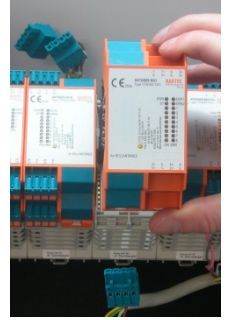

Figure 5
- Raise the electronic unit and take it out of the lower section of the enclosure (fig. 5).
The electronic unit may be touched only on the upper section of the enclosure (see fig. 5)! (ESD danger)